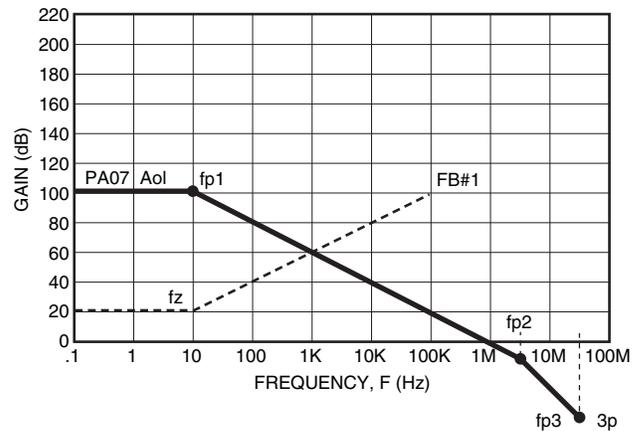
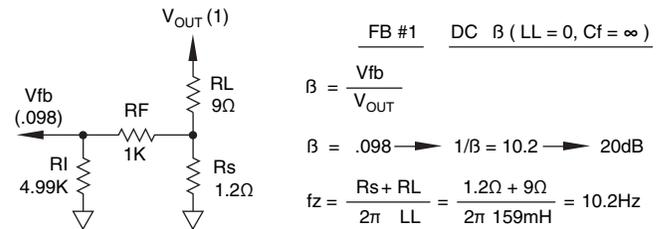

FIGURE 17. Aol AND FB # 1 – MAGNITUDE PLOT FOR STABILITY
FIGURE 18. FEEDBACK NO.1 (FB #1)
STEP 1: On Figure 17 plot the op amp's Aol curve as given by the manufacturer.
STEP 2: On Figure 17 plot FB#1. Refer to Figure 18 for calculation of FB#1. At DC, LL is a short and so β is a voltage divider through resistors as shown in Figure 18. As we go to higher frequencies, the reactance of LL will increase ( $X_L = 2\pi fL$ ). This will increase the net load impedance which will cause β to decrease and 1/β to increase as frequency increases. Since we are working with a single reactive element the increase of that gain will be 20 dB per decade. Figure 18 details the breakpoint fz where this increase begins. We see that at the intersection of FB#1